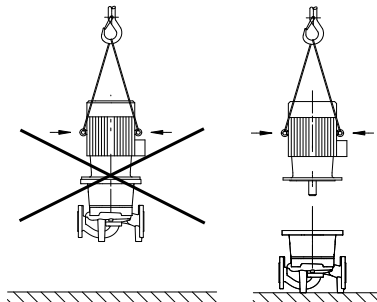

Fig. 20: Transporting the motor
- Only use lifting eyes on the motor for carrying the weight of the motor and not for carrying the entire pump (Fig. 20).